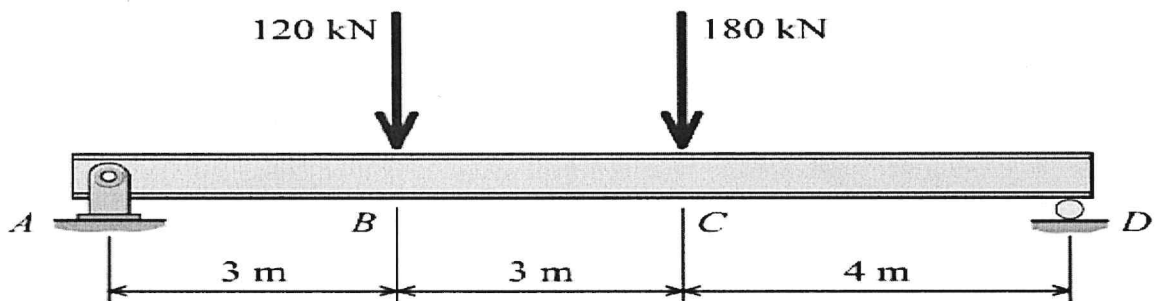

Fig Q 2(b)
- b) Apply Castigliano's second theorem to compute the deflection of the beam at C for the beam in Fig Q 2(b). Take  $E = 200 \text{ GPa}$  and  $I = 8.6 \times 10^{-4} \text{ m}^4$ .